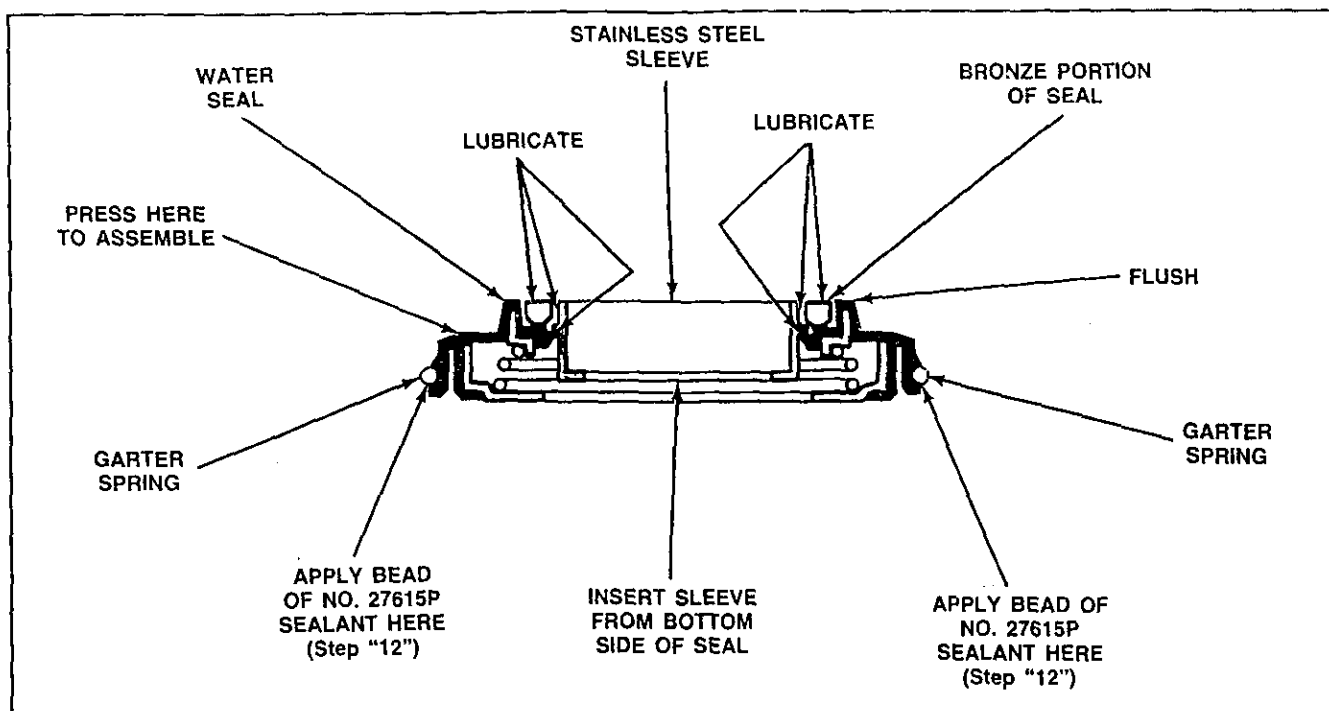

Figure 3
9. Apply a light film of non-staining petroleum jelly (such as Vaseline®) to the bronze portion of the water seal and to the outer surface of the stainless steel sleeve, *Figure 3*.
10. Insert the stainless steel sleeve into the water seal from the bottom side of the seal, *Figure 3*, until the sleeve is flush with the bronze portion of the seal.
12. Carefully apply a small amount of No. 27615P Sealant (supplied in kit) around the outer edge of seal and tub. (The area located just below the garter spring, *Figure 3*.)